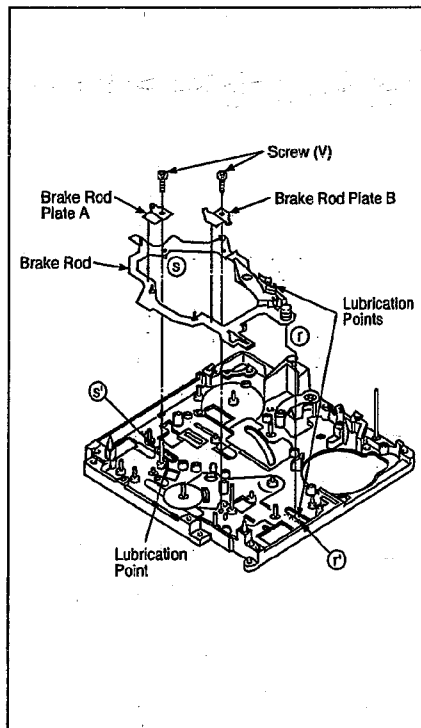

Fig. M33
- Fig. M33 Unscrew 2 screws (V) and remove the Brake Rod, Brake Rod Plate A and B.